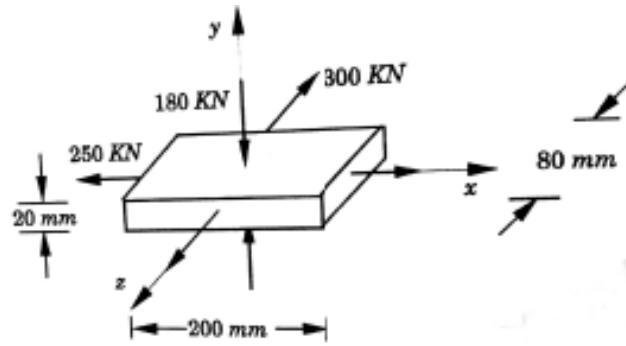

Figure 2
4. A block of size 200 mm x 80 mm x 20 mm is subjected to the forces as shown in Figure 2. *Evaluate* i) change in dimensions and ii) change in volume. Take $E = 200 \text{ GPa}$ and $1/m = 0.3$.